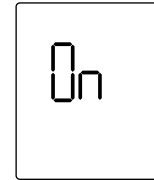

Figure 1
- The display shows “On” and the display is illuminated in green (Figure 1).